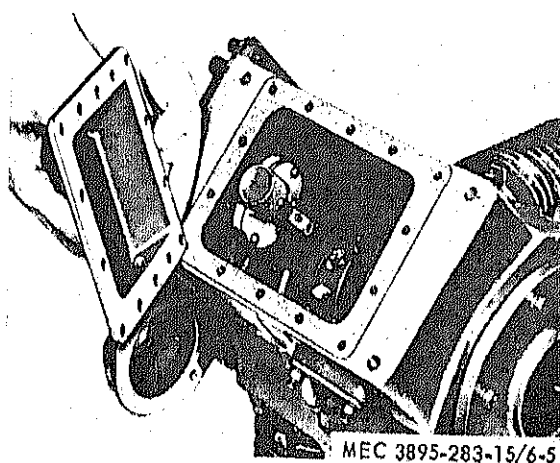

Figure 6-5. Oil Pan Removal.
a. Removal (fig. 6-5, 6-6, and 6-7).
(1) Remove oil pan.
(2) Take out the slotted pipe plug.
(3) With 5/32 Allen wrench, remove the oil pump lockscrew.
(4) Unscrew locknut holding oil pump driving gear to shaft.
(5) With a soft brass rod or punch, drive shaft through gear.
(6) Withdraw oil pump toward center of crankcase.